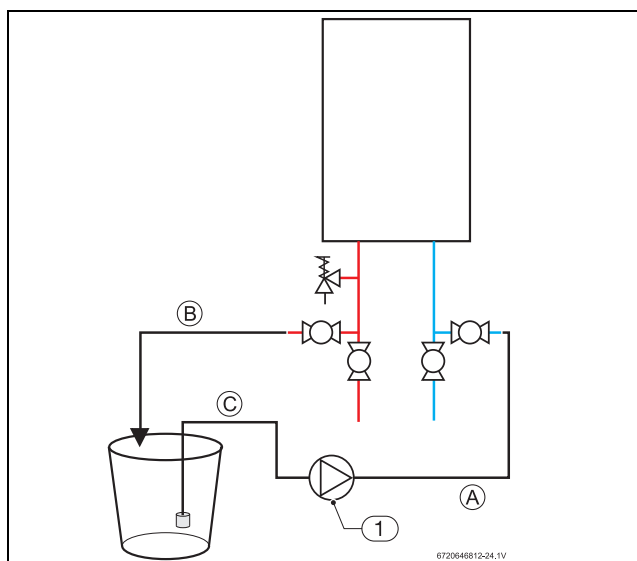

Fig. 62
- ▶ Connect a line (A) from the outlet of the circulating pump (installer supplied) to the inlet water fitting on the water heater (see fig. 62.)
- ▶ Using another line (B), connect the water outlet fitting on the water heater. Route the other end of this line into a descaling reservoir.
- ▶ Using a 3rd line (C) from the descaling reservoir, connect to the inlet side of circulating pump. Install a filter on the end of the line in the descaling reservoir.